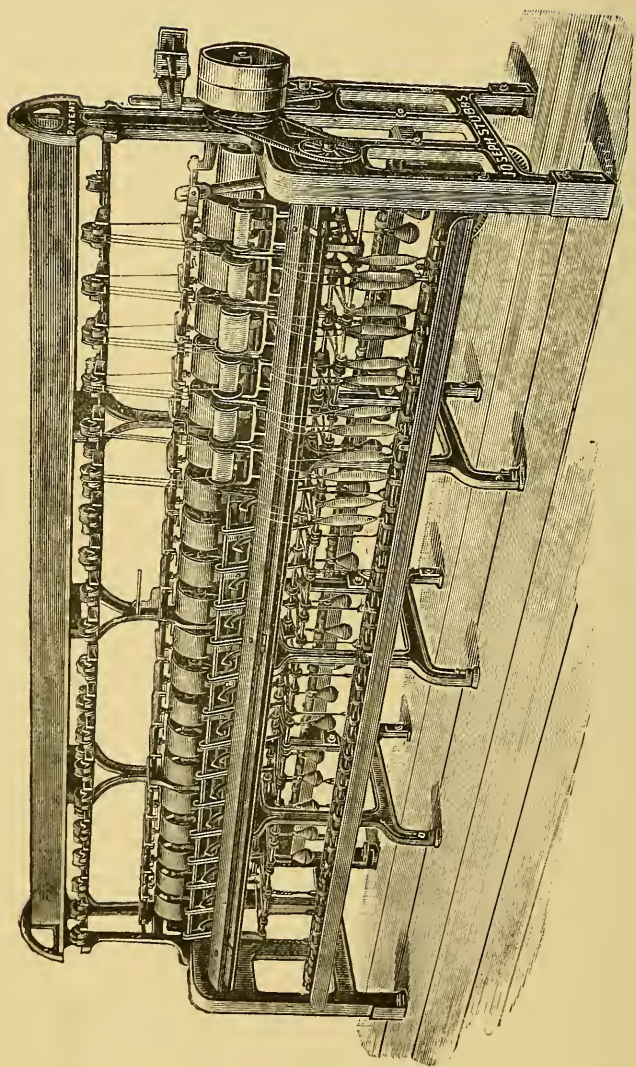

Fig. 36.—Doubling-Winding Frame.
**Doubling Winding.**—Doubling is performed on three distinct machines, although they can only be considered as spinning modifications. They are the throstle doubling-frame, the twiner—a sort of mule—often made from a worn-out mule; and the third is the ring doubling-frame. To describe these in detail would require several pages, but we can give an ample explanation of the process by the particulars of the Doubling-Winding Machine (Figs. 36 and 37). We take this only as an illustration of the operation, as there are other and equally good machines in work, which give every satisfaction.
adoption, "singles" may reasonably be considered an impossibility. The illustration (Fig. 36) represents, in perspective, one of these machines. The stop motion is simple and not liable to get out of order. This is a primary consideration, without which, however well